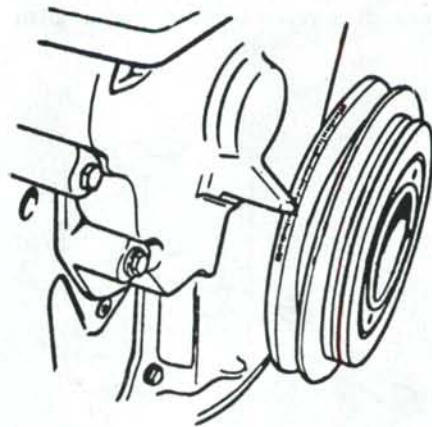
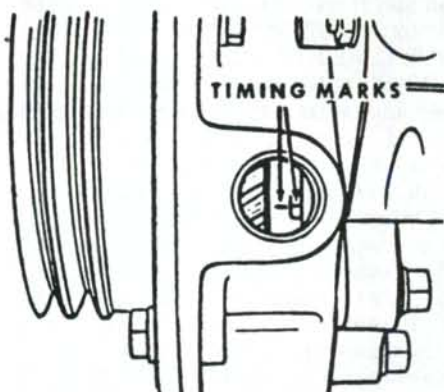

Fig. 68—To time the injection pump, align the indicated timing mark with timing pointer on gear cover. Refer to text.
Fig. 69—With correct crankshaft timing mark aligned as shown in Fig. 68, remove plug from timing gear cover and align injection pump timing marks as shown.
75. TIMING. The recommended injection pump timing is given on a data decal on engine valve cover and is adjusted as follows: Turn crankshaft until No. 1 piston is coming up on compression stroke, then continue turning crankshaft until appropriate timing mark on crankshaft pulley is aligned with timing pointer as shown in Fig. 68. Remove timing hole plug and check timing marks on injection pump housing and drive gear hub as shown in Fig. 69. Marks should align, if they do not, loosen the four injection pump mounting flange nuts on rear of timing gear housing and rotate injection pump body in slotted holes.